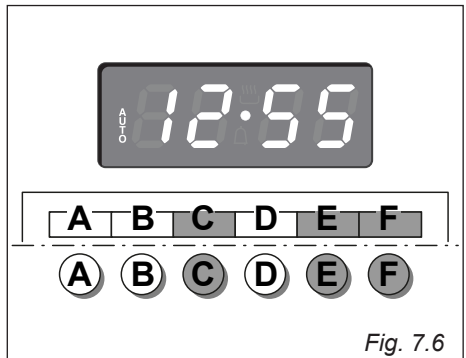

Fig. 7.6
2. Set the end of the cooking time by pressing the "C" button (the cooking time already added to the clock time will appear) and the "F" button (fig. 7.6); if you pass the desired time you may get back by pushing the "E" button.